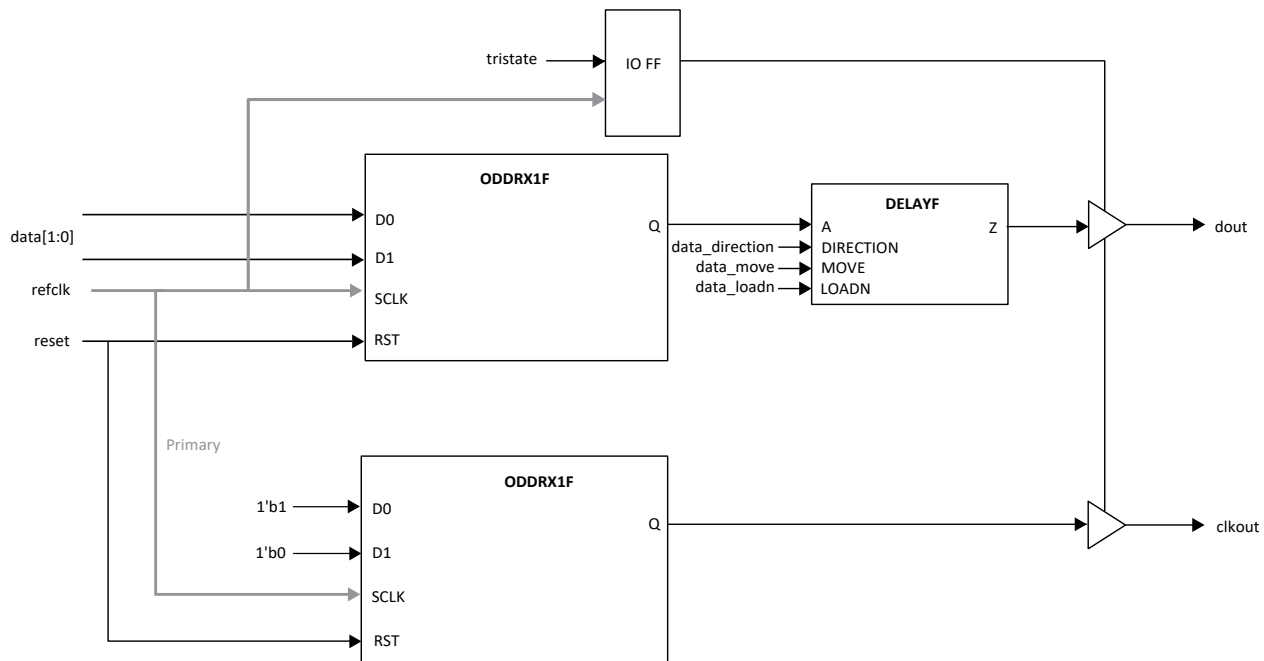

Figure 5.19. GDDR1_TX.SCLK.Aligned Interface (with Registered Tristate and Optional Dynamic Data Delay)
- The DELAYG or DELAYF element to delay the output data before sending out to the IO pad. DELAYG is used with a static delay, DELAYF is used with dynamic delay. This is not shown in the following diagrams but the implementation is similar to Figure 5.19.